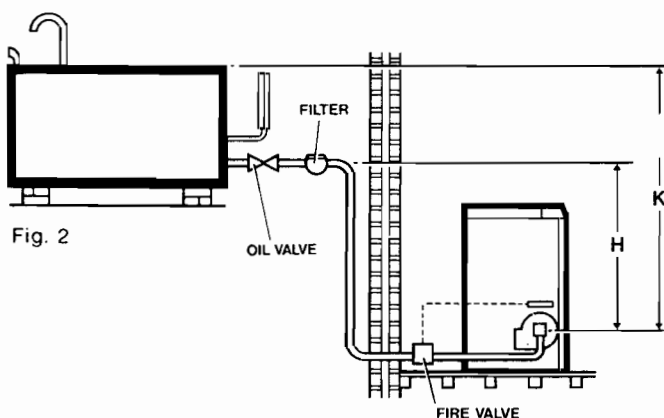

Fig. 2
4. Oil supply. See Figs. 2 and 3.